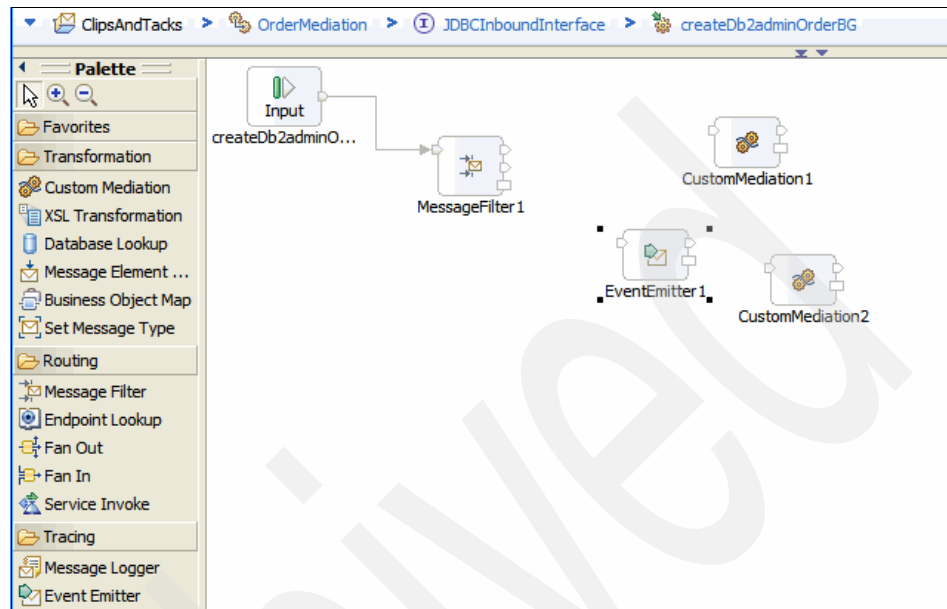

Figure 6-84 Adding primitives
- Under the Tracing section, select and add an **Event Emitter** primitive to the canvas (Figure 6-84).